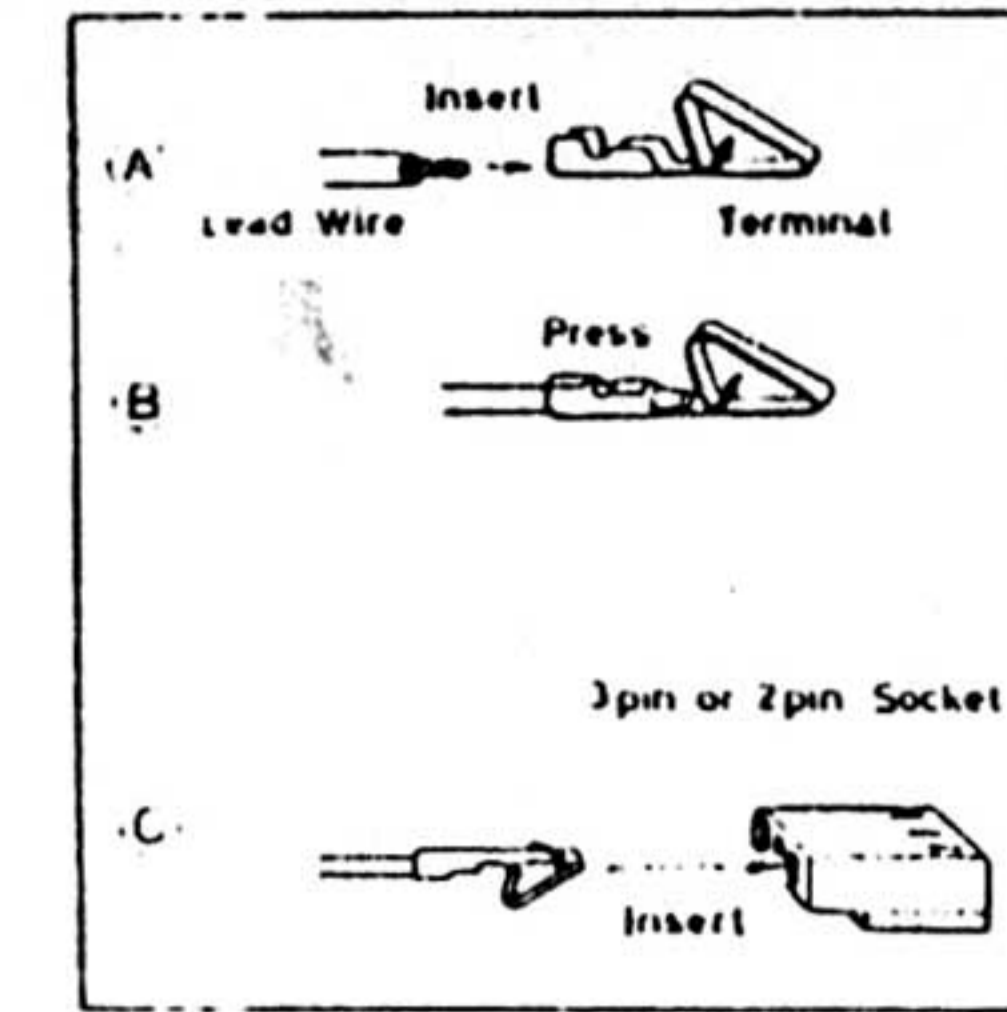

Fig. 4
1. As shown in figure 4 (A), insert the lead wire into the terminal (part no. SJTA712).
2. As shown in figure 4 (B), press the terminal to secure the lead wire.
3. As shown in figure 4 (C), insert into a 3-pin socket (part no. SJS5317) or 2-pin socket (part no. SJS5209).